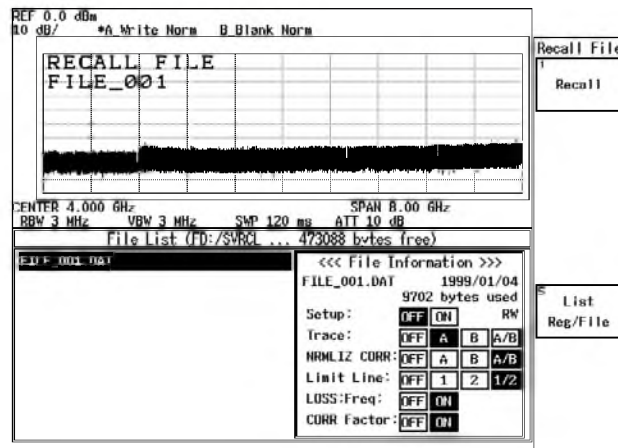

Figure 2-149 Selected File
4. Select the file from the file list using the data knob (See Figure 2-149).